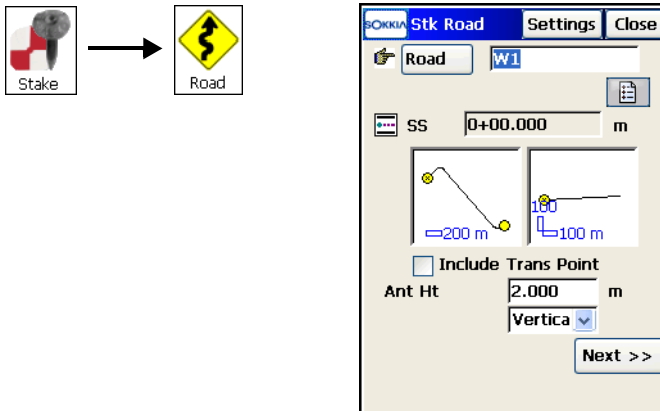
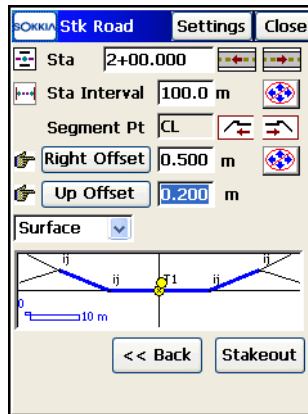

Figure 9-37. Stakeout Road
Figure 9-38. Stakeout Road (second screen)
2. On the *Stk Road* screen (Figure 9-37), set the *road*, *horizontal*, and *horizontal* and *vertical* alignments to be staked out and the starting station, the height and the type of the antenna height (GPS mode), or the height of the rod (target) (TS mode). If staking the transition points (points where horizontal elements of the road change), check the appropriate field (Figure 9-37). Tap **Next**. A second *Stk Road* screen displays (Figure 9-38 on page 9-29).